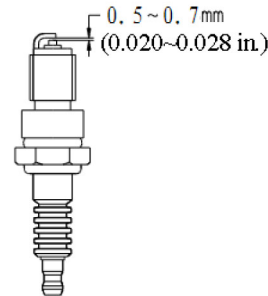

Figure 9 – Measuring the spark plug gap
4. Measure the spark plug electrode gap with a gauge. The gap should be 0.020-0.028in (0.5-0.7mm). (See Figure 9.)